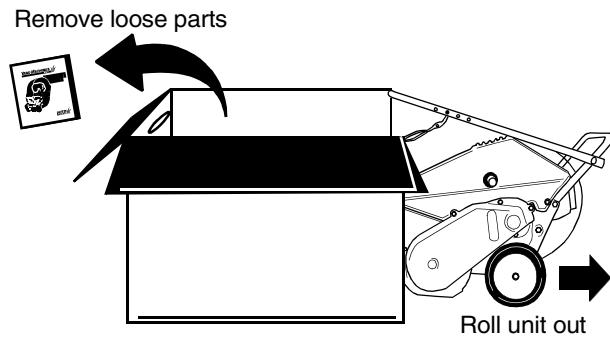

Figure 1
- Cut along corners of the carton and lay it down flat. See Figure 1. Remove packing material.